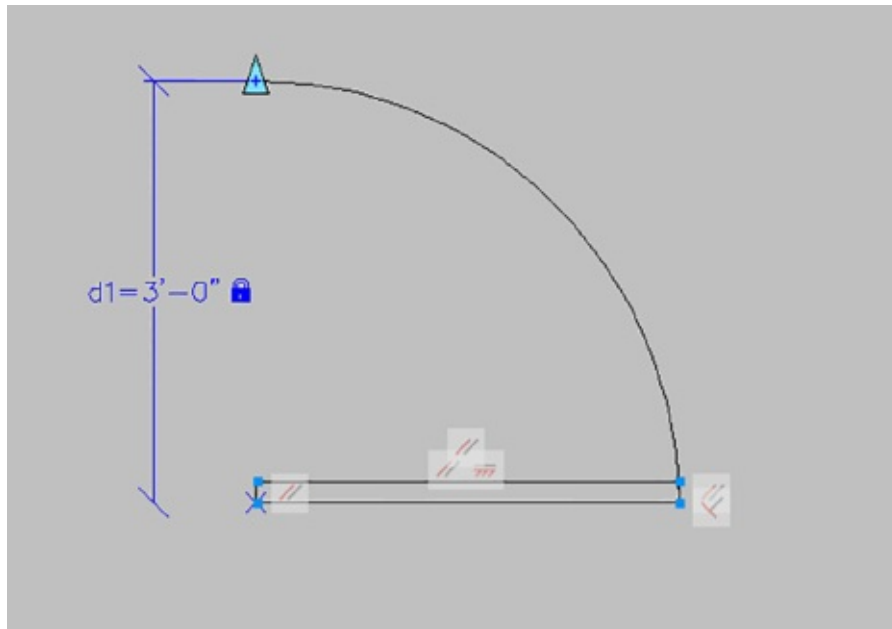

FIGURE 17.12 The aligned dimensional constraint applied to the door opening
5. At the Specify dimension line location: prompt, place the dimension to the left of the arc (see Figure 17.12).
6. With the dimension highlighted, press \leftarrow . Your drawing will look similar to Figure 17.12.